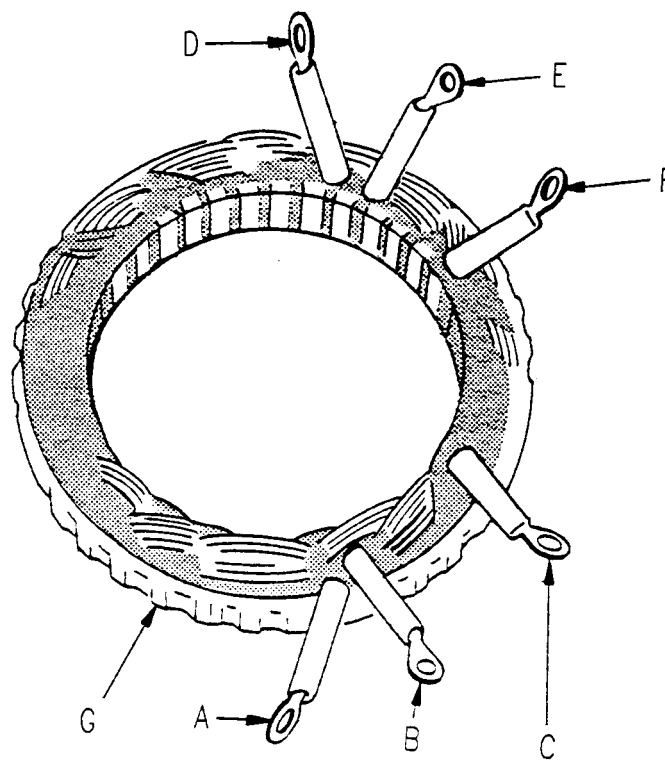

Figure 5-45. Stator Test
- (3) Using multimeter set for ohms, check stator for open circuits between point G (laminations) and each stator terminal (Figure 5-45). If continuity is noted between laminations and any terminal, stator is defective and must be replaced.
- (4) Using multimeter set for ohms, check for continuity between all combinations of terminals A, B, and C. Check for continuity between all combinations of terminals D, E, and F. Check for open circuits between all combinations of terminals A, B, and C to terminals D, E, and F. Replace stator if indications are other than stated.